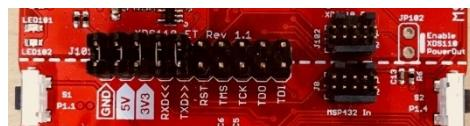

图 15. MSP432P410R LaunchPad™ Isolation Block
1. Remove jumpers on the JTAG signals on the J101 isolation block including RST, TMS, TCK, TDO, and TDI as seen in 图 15.